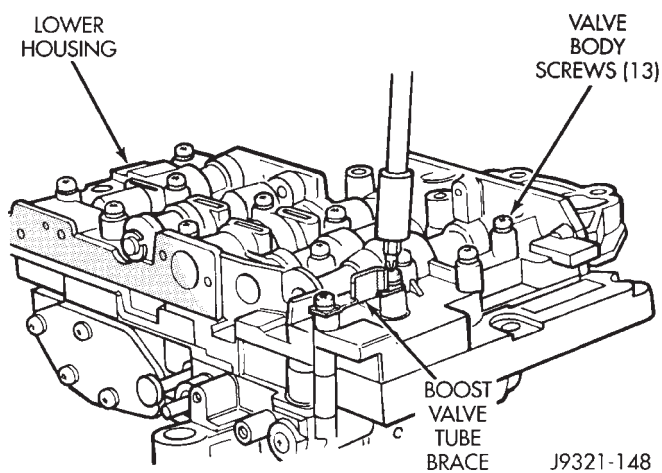

Fig. 113 Valve Body Screw And Tube Brace Location
(25) Turn valve body over so lower housing is facing upward (Fig. 113). In this position, the two check balls
(26) Remove screws attaching valve body lower housing to upper housing and transfer plate (Fig. 113). **Note position of boost valve tube brace for assembly reference.**